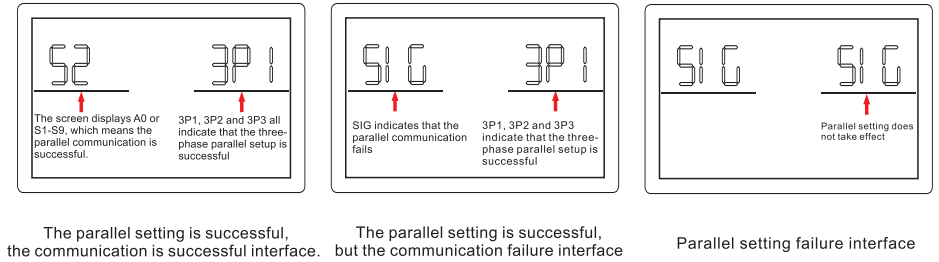

Figure 4.1.2
Step 4: Close the AC circuit breakers of all lines in the AC input, keep the rocker switch not closed, and wake up the parallel system. There are instructions on the next page of P9 on the LCD display interface, as shown in Figure 4.1.2, which means three-phase power supply System installation is complete.